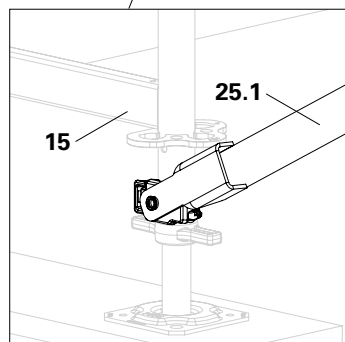

Fig. D7.07b
1. Vertically reinforce the multi brace (25) with an outer tube (25.1). Fit the outer tube onto the base frame (15) (Fig. D7.07b) and onto the inner tube (25.2) close to the outer tube. The assembly position has an impact on the support angle.